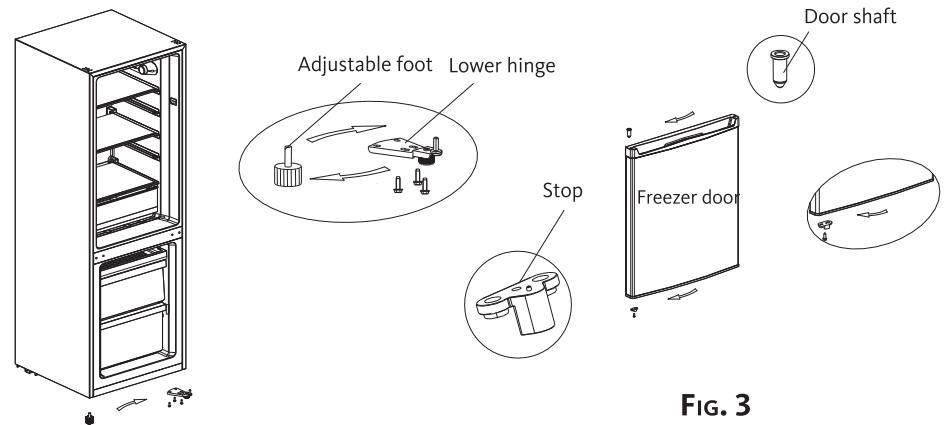

FIG. 3
- Remove the door from the freezer compartment. Tilt the appliance backwards. Remove the 2 front feet that are adjustable in height, then remove the lower hinge (see figure 3).
- Fit the lower hinge assembly and adjustable feet on the other side. Then, fit the door shaft and the freezer door stop on the other side (fig. 3).